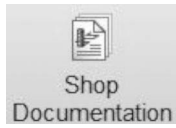

Figure 6-34 Shop Documentation Icon
- M. Highlight the FBM_EXAMPLE, Program Group in the Operation Navigator. Press the Shop Documentation icon in the Ribbon Bar (Figures 6-34 and 6-35). The resultant output is shown in Figure 6-36.